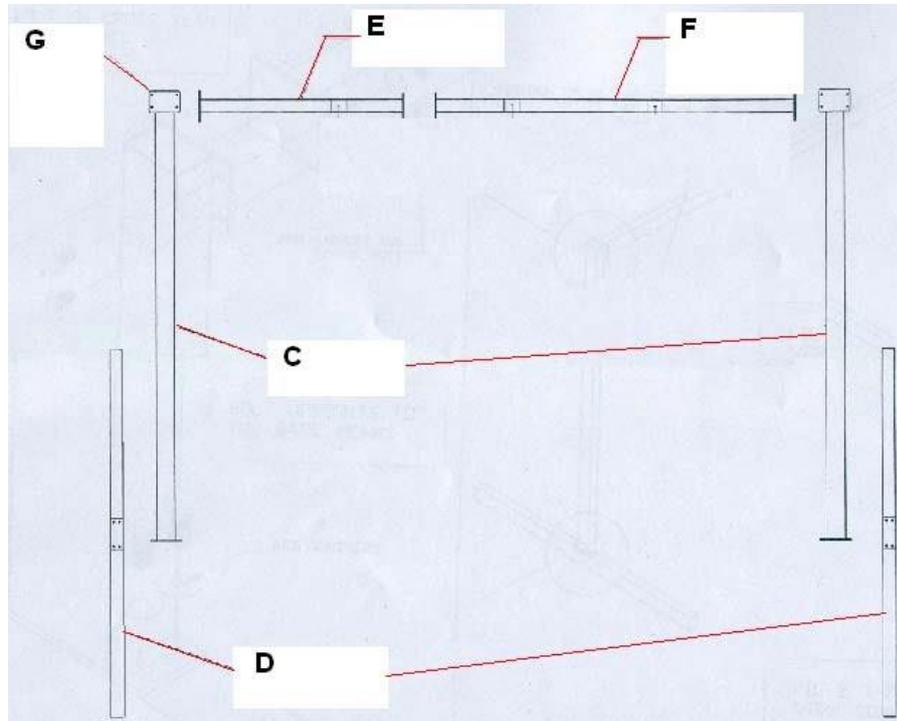

Fig 1.
1. Unpack all the components with care. Lay the pieces of the frame out on the floor orientated as suggested in *fig 1*.